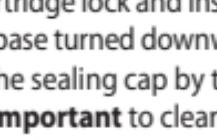

Fig. 2
- b) Lift the cartridge lock and insert the cartridge with the "V" shape on the cartridge base turned downwards. Lower the cartridge lock (Fig. 2).